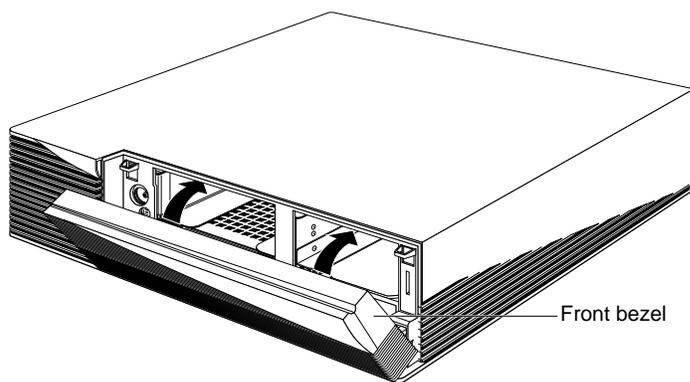

Figure 7 Replacing the Front Bezel on the Indigo² Chassis
- Place the tabs on the bottom of the bezel in the grooves in the front of the chassis, as shown in Figure 7.